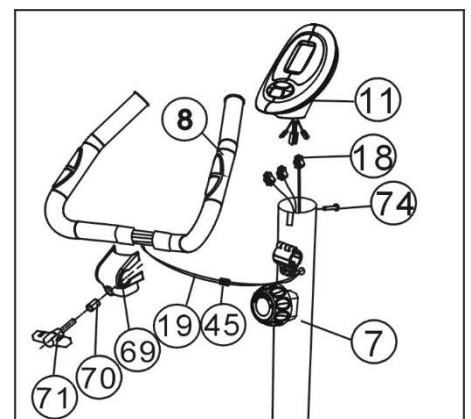

Figure 4
a. Insert the Tension control wires (19) through into the hole of the Handlebar support (7) and then pull them out from the top hole of Handlebar support (7). Attach the Handlebar (8) to the Handlebar locator(A) of the Handlebar post(7) with the Handlebar cover(69), then insert the Tension control wires(19) into the hole of the Handlebar support(7) with the Pole plug(70), and put the Spacer(70) on the T-knob(71). Adjust the handlebar to the proper position, and lock with the T-knob(71) tightly.
b. Connect the Computer wire (18) and the Pulse wires (19) and sensor wire, insert the surplus wire into the Handlebar (7). then insert the Computer (11) to the top of Handlebar support (7) ,make sure the computer is inserted to the handlebar support firmly. then tighten it with M5*10 cross-head screw(74) (Refer figure 4)